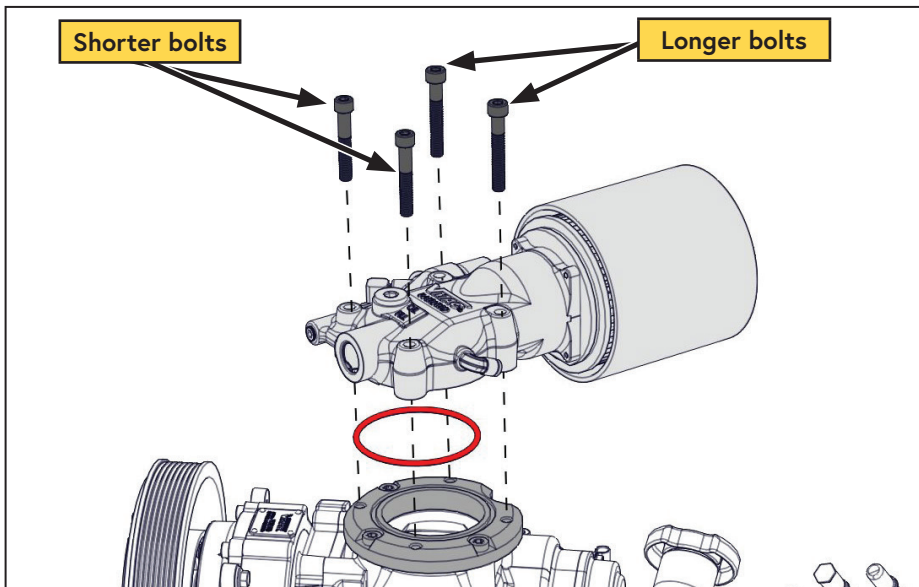

Figure 55 — Install the inlet
- ☐ Remove the protective covering and reinstall the Viton O-ring and inlet onto the compressor. Torque to specification (Figure 55).